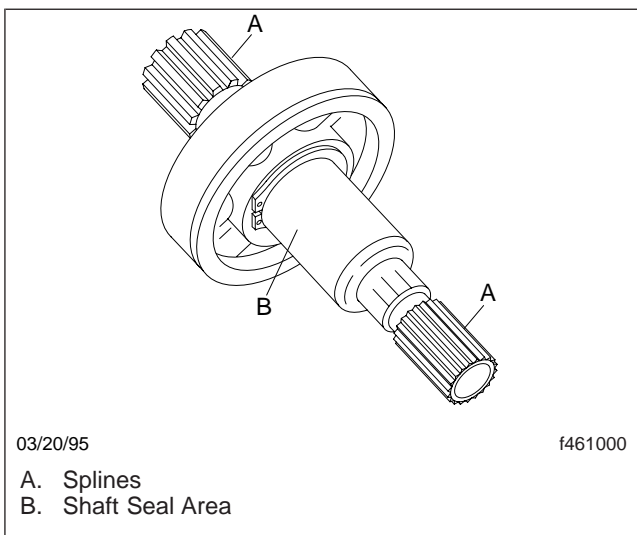

Fig. 23, Checking the Input Shaft
9. Check the input shaft for damaged splines and abnormal wear grooves around the seal area. See Fig. 23. If there are grooves that can be detected with your fingernail, replace the input shaft, as follows.